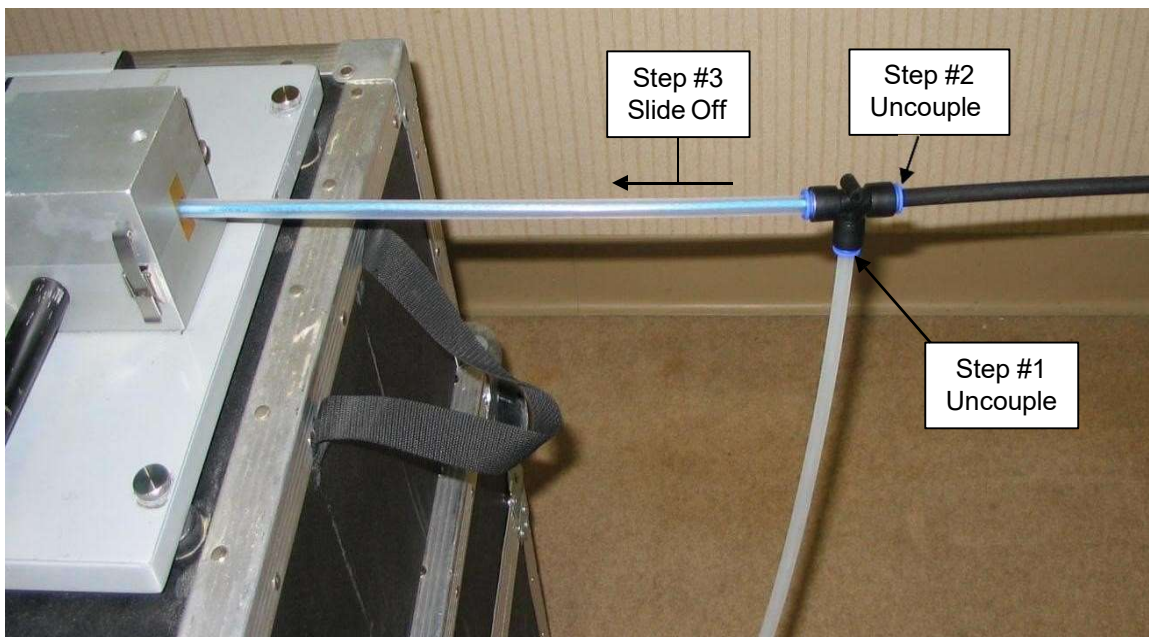

Figure 10
11.5 Carefully uncouple Gas Supply Tubing from Branch Leg of Second Tee Coupling. **See Fig. 10.**
11.6 Carefully uncouple Second Tee Coupling and 8mm Clear Tube from tube span. **See Fig. 10.**
11.7 Carefully slide Second Tee Coupling and 8mm Clear Tube off cut end of fiber bundle and retain. **See Fig. 10.**